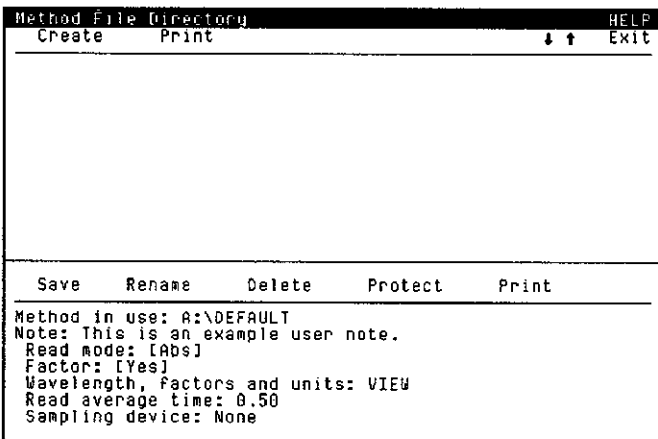

Figure 5-2. Method Window
1. Click on **<Method>** to display the Method window, Figure 5-2. The Method window is used to setup analysis parameters, recall stored methods and create new methods. General information on method windows is provided in section 3.8.